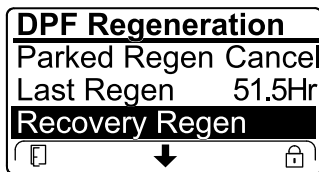

Figure 72
- If the engine computer has not requested a recovery regeneration and you scroll down to the RECOVERY REGEN option, the recovery regeneration locks and the lock icon (Figure 72) appears in the lower right corner of the InfoCenter.